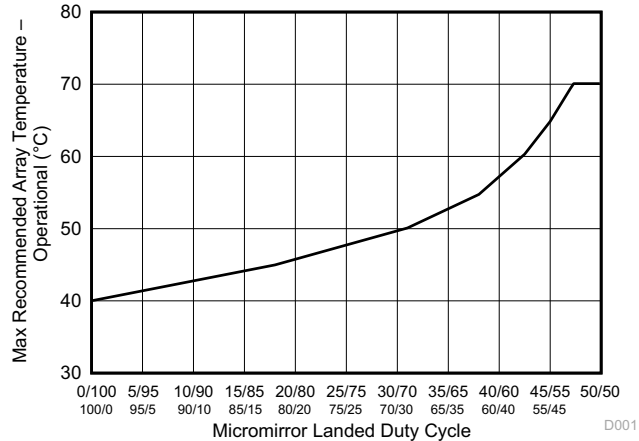

Figure 6-1. Max Recommended Array Temperature—Derating Curve
- (5) Per Figure 6-1, the maximum operational array temperature should be derated based on the micromirror landed duty cycle that the DMD experiences in the end application. Refer to Section 7.7 for a definition of micromirror landed duty cycle.
- (6) Long-term is defined as the usable life of the device
- (7) Array temperatures beyond those specified as long-term are recommended for short-term conditions only (power-up). Short-term is defined as cumulative time over the usable life of the device and is less than 500 hours for temperatures between the long-term maximum and 75°C, and less than 500 hours for temperatures between 0°C and –20°C.